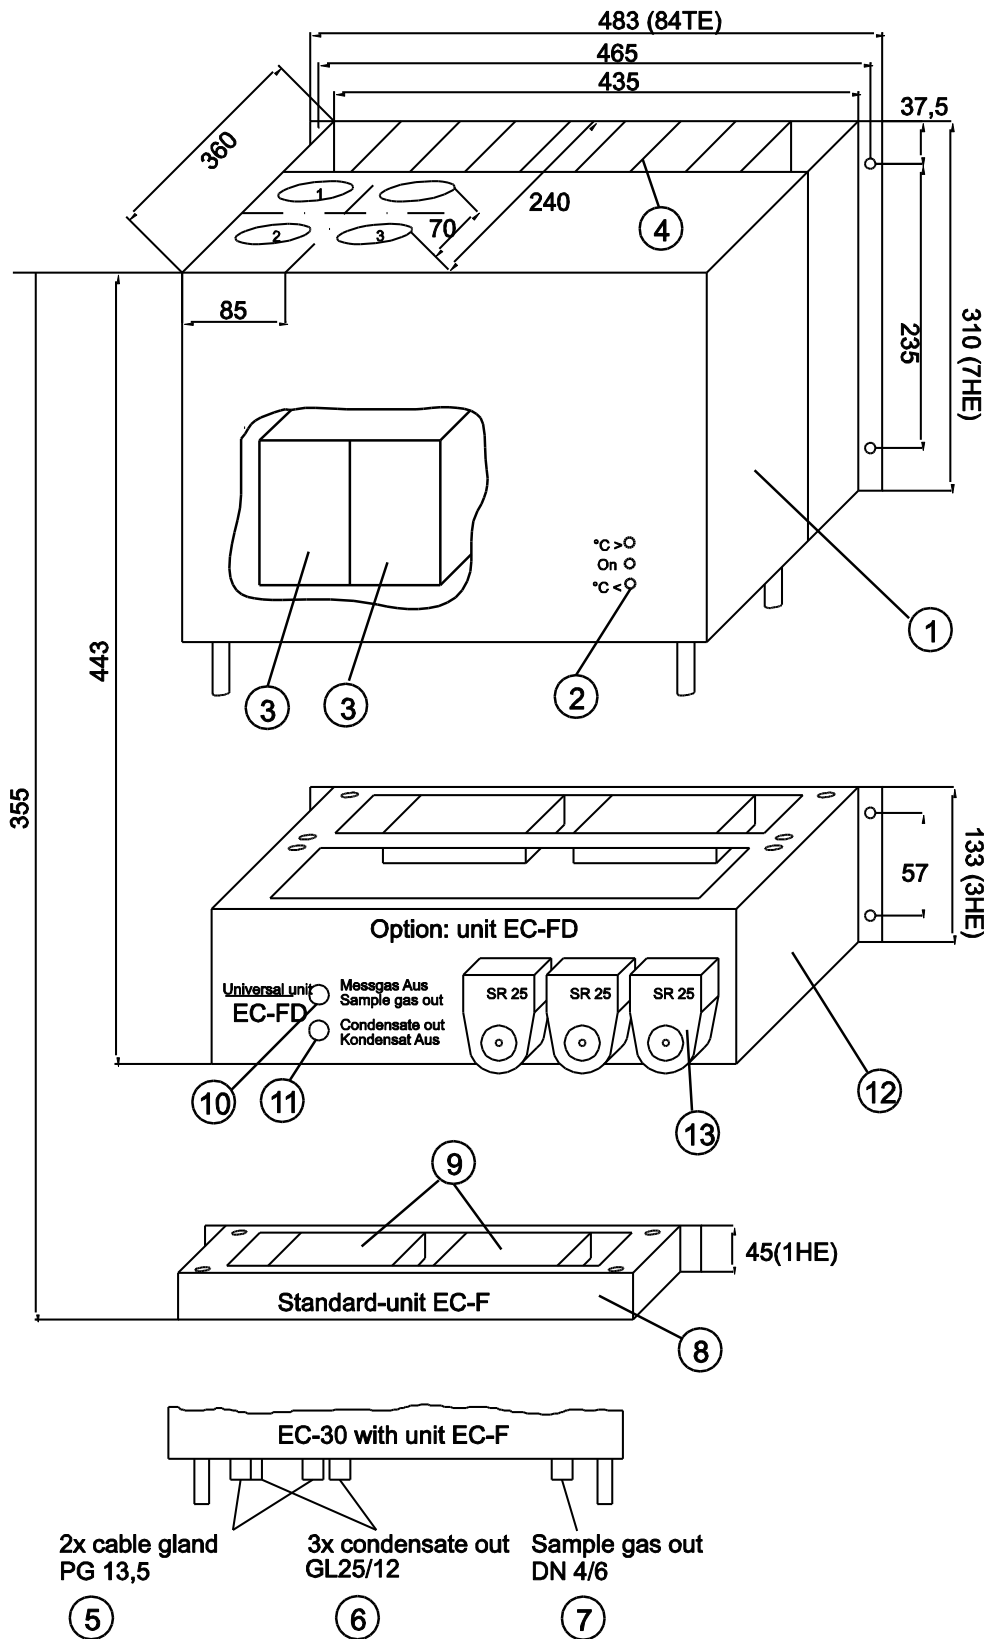

Figure 2 EC-30 with options EC-F and EC-FD
The minimum installation dimensions (fig. 2) must be followed without fail. If the unit is installed outdoors, the cooler must be installed in a housing that is frost-free in winter and adequately ventilated in summer. Avoid locating the unit in direct sunlight.
The connection for the gas inlet (see above) is made to the heat exchanger of the pre-cooling stage ③ (fig. 2). This is marked accordingly with an arrow. The outlet for gas to be measured, DN 4/6, is located as standard on the universal unit EC-F located on the underside of the cooler casing (fig. 2). When using the automatic condensate removal EC-FD, the connection for the outlet for gas to be measured will be made to the corresponding connector on the front panel of the universal unit (fig. 2).
These protrude with the 12mm tube connectors above the base plate of the cooler casing (fig. 2).
Figure 6 shows the location of the terminal X0 behind the front panel of the **EC-30** casing (fig. 2).
Three function display LEDs are provided to give a visualization of the function sequence during start up of the cooler. According to the type of installation, they are located either on the front panel or the back panel of the cooler (fig. 2). The top LED (red) indicates that the temperature set by the **EC** automatic control electronics for the pre-cooler stage has been exceeded or has not been reached. The two-colour (pink/green) LED in the middle shows that the cooler compressor is operating (on/off). The bottom red function display LED gives an alarm if the pre-cooler stage temperature falls too low or if the low-temperature stage temperature is exceeded.